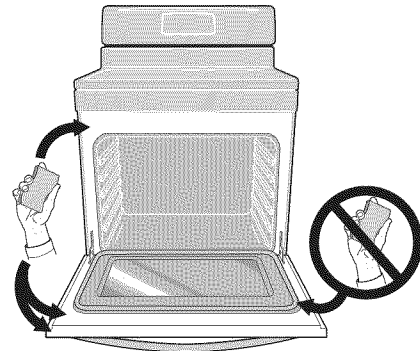

Fig. 48 Do not clean the oven door gasket
12. Wipe oven cavity and bottom. Do not clean oven door gaskets (Figure 48).